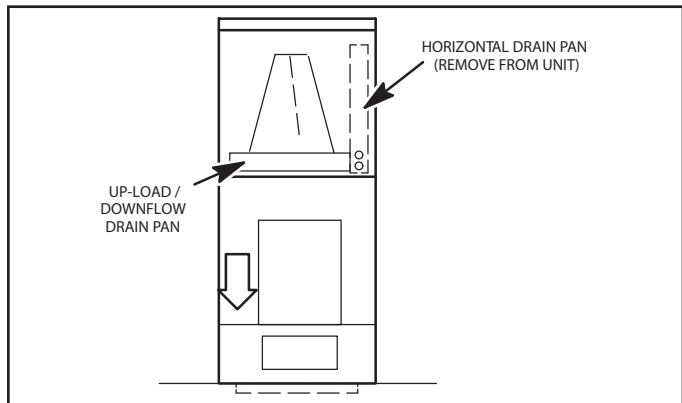

FIGURE 6. Downflow Discharge Position
- 2 - For best efficiency and air flow, remove the horizontal drain pan from the units in downflow positions as illustrated in figure 6.
- 3 - Rotate cabinet 180° from the upright position. See figure 6. You may need to first remove the blower assembly to lighten the cabinet for lifting.